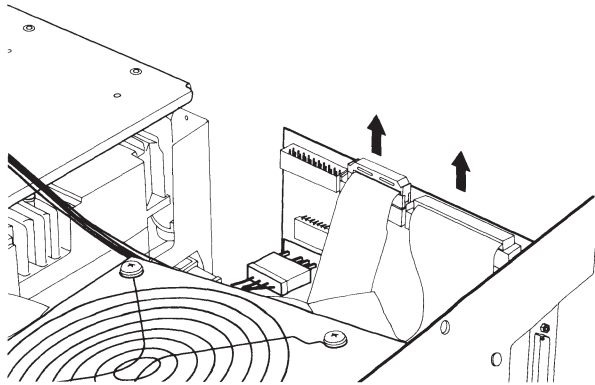

Figure 7-56. Removing the 20- and 34-Pin Signal Cables.
2. Disconnect the 20- and 34-pin signal cables from the external interface adapter board (Figure 7-56).